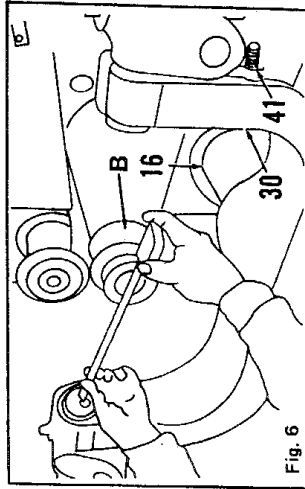

Fig. 6
3. Center yoke (30) from axis of lower roll (B) (Fig. 6) by measuring from each side of the yoke to the axis with a tape. Tighten set screw (41) in frame to lock horn (16) in place. Remove set screw (41) and spot a hole in horn to facilitate future installation; then, replace and tighten set screw.